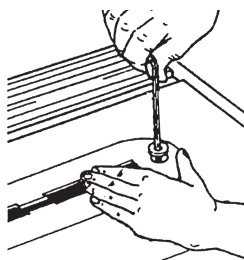

Figure 55
2. First tighten the rear screw. Then the front of the insert will be sprung slightly above the Table. Level the insert by placing your hand on the front of the insert, and slowly turning the front screw until it draws the front of the insert flush with the Worktable surface. Shown in Figure 55.